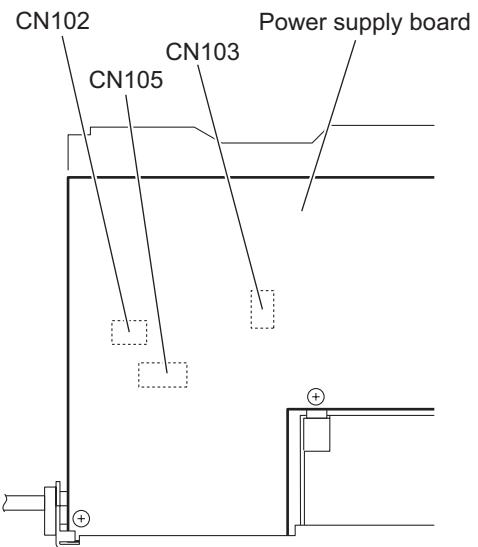

Fig.24
(See Figs.24 and 25)
- From the forward side of the power supply board, disconnect the wires from the connectors (CN102, CN103, CN105). (See Fig.24.)